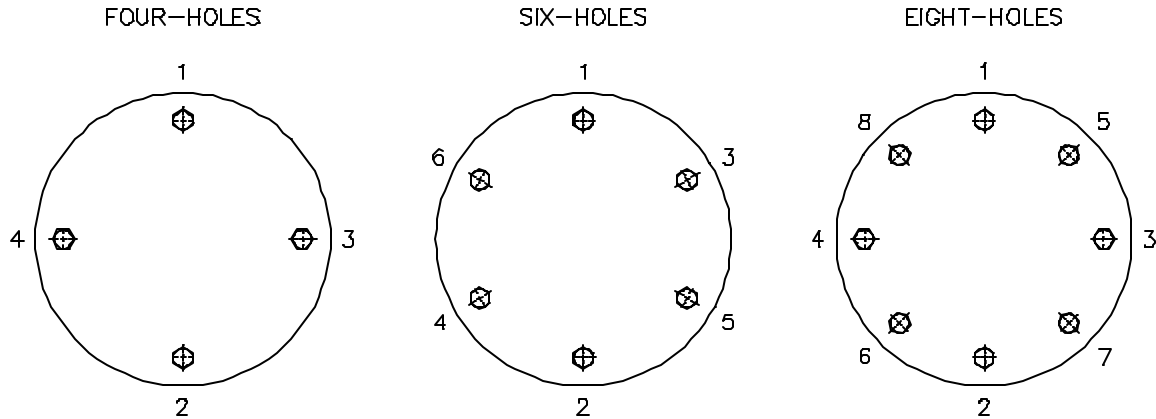

Figure 32: Sequential Tightening
- 3k. With the drive shaft runout within limits, torque bolts **[1412]** in sequential order (*see Figure 32, page 78*) to 25% of the value shown in *Table 5, page 13*. Repeat this tightening sequence in several steps until the bolts are torqued to the value shown in *Table 5*. Check drive shaft runout to be sure it is still within tolerance.
- 3i. With the drive shaft runout within limits, torque bolts [1533] in sequential order (*see Figure 32, page 78*) to 25% of the value shown in *Table 5, page 13*. Repeat this tightening sequence in several steps until the bolts are torqued to the value shown in *Table 5*. Check drive shaft runout to be sure it is still within tolerance.